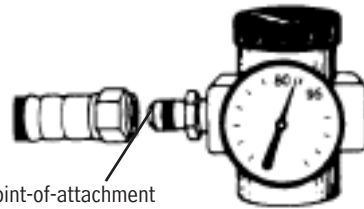

Figure 2
- Adjust the air pressure at the point-of-attachment (Figure 2) to within the approved pressure range. See the Respirator Breathing Air Pressure table in the respirator user manual.